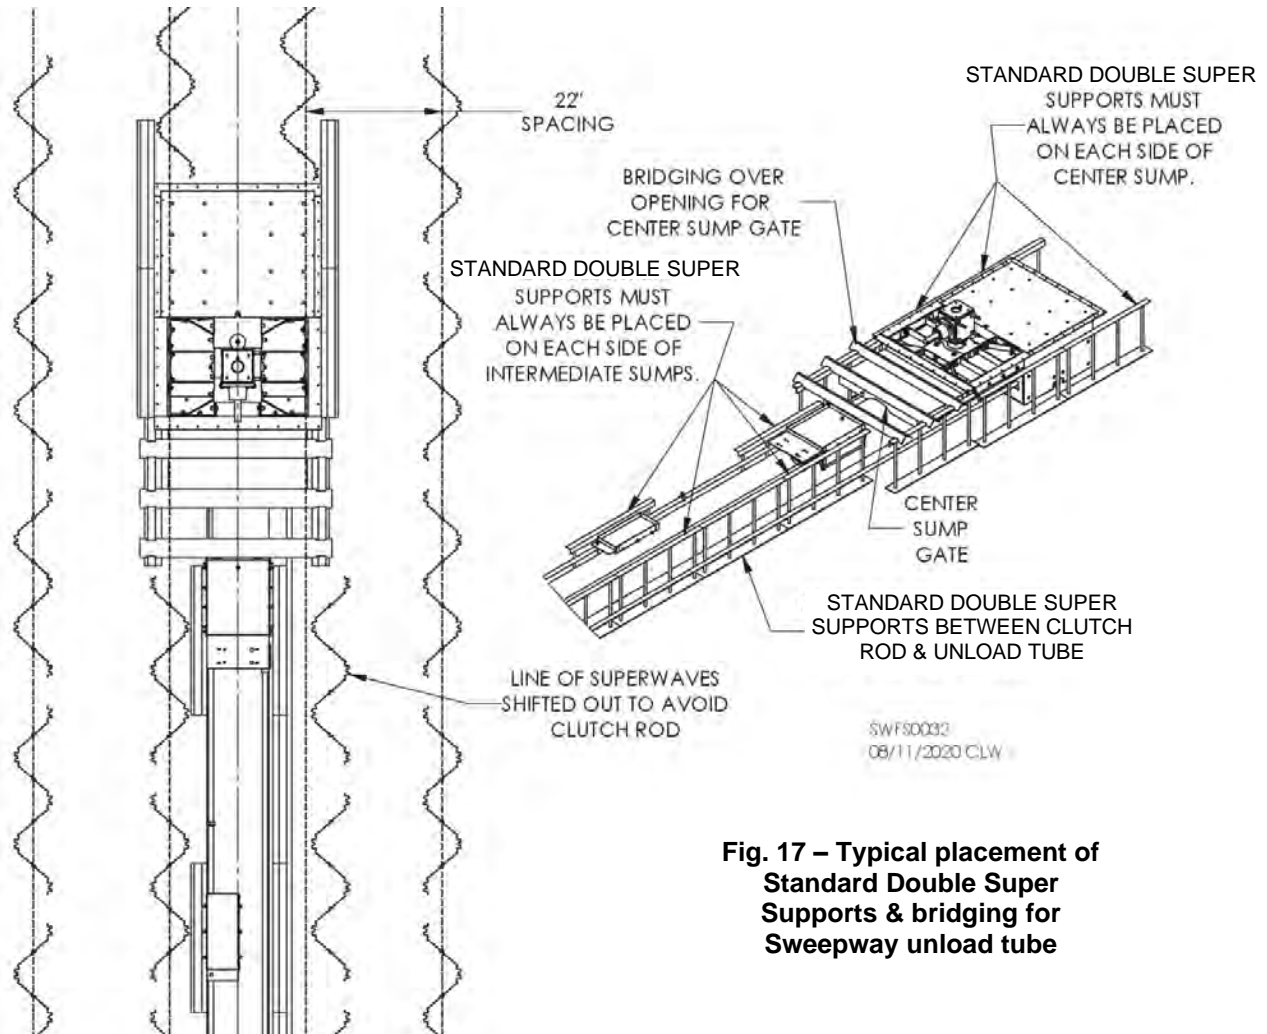

Fig. 17 – Typical placement of Standard Double Super Supports & bridging for Sweepway unload tube
- An 8" Sweepway in a 42' dia., 7-ring bin with Hawk Cut flooring and SuperWave supports requires support spacing of 21", according to table on Page 10. Since center sump gate is 23-1/2" wide (See upper table on Page 17), neither SuperWaves nor Double Super Supports can be used at center sump gate opening, so bridging is needed above void for sump gate. Since unload is 8" wide, SuperWaves can be used on one side of unload tube at normal 21" spacing. On clutch rod side, SuperWave would interfere with rod, so Double Super Supports must be used between unload tube and clutch rod. See Fig. 17. **NOTE:** See Fig. 21 for widths of SuperWave, Z-Post and Double Super Supports.
Fig. 17 shows typical use of Double Super Supports for Sweepway unload system with SuperWave Supports at 22" spacing. Drawing also shows bridging over center sump gate.